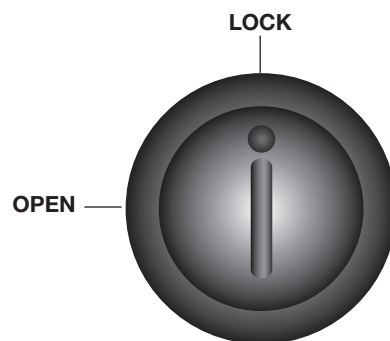

Figure 92. Front Panel Door Lock
2. In the **Reset Devices** window (see figure 92, ①), select the second radio button: **Reset Device Settings and Delete All Files (Retains TCP/IP Settings)**. The system reboots. After approximately 2 minutes, the expansion devices appear listed separately in the device discovery panel, as shown in figure 79 on page 88.